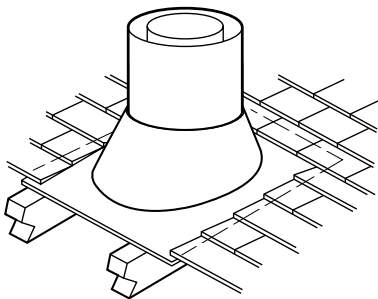

Figure 37
Step 7. Secure flashing by nailing along the perimeter into roof using 8d nails or equivalent. If shingled roof, slide upper end and sides of roof flashing under shingles (trim if necessary), seal the top and both sides of the flashing to the roof with roof caulking. Cover nail heads with roof caulking (Figure 37).